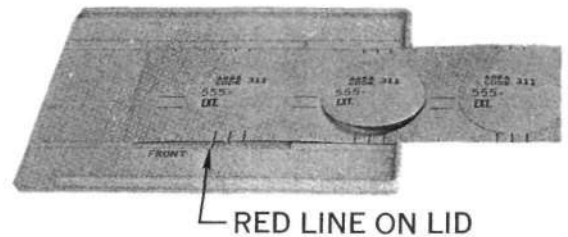

Fig. 6 - Aligning Guide Lines (4-Digit Number)
- (2) Place number card form in slot so that first guide line on number card is aligned with red line on lid (Fig. 6).